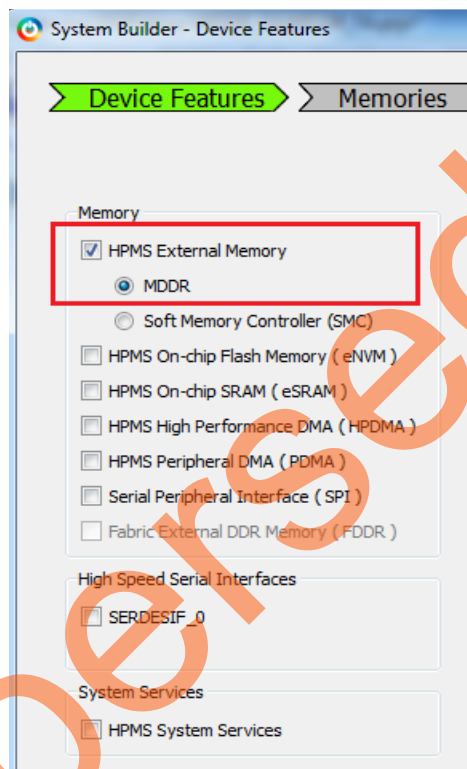

Figure 8 • System Builder - Device Features Tab
1. Go to the **System Builder - Device Features** tab and check the **HPMS External Memory (MDDR)** check box and leave the rest of the check boxes unchecked. Figure 8 shows the **System Builder - Device Features** tab.